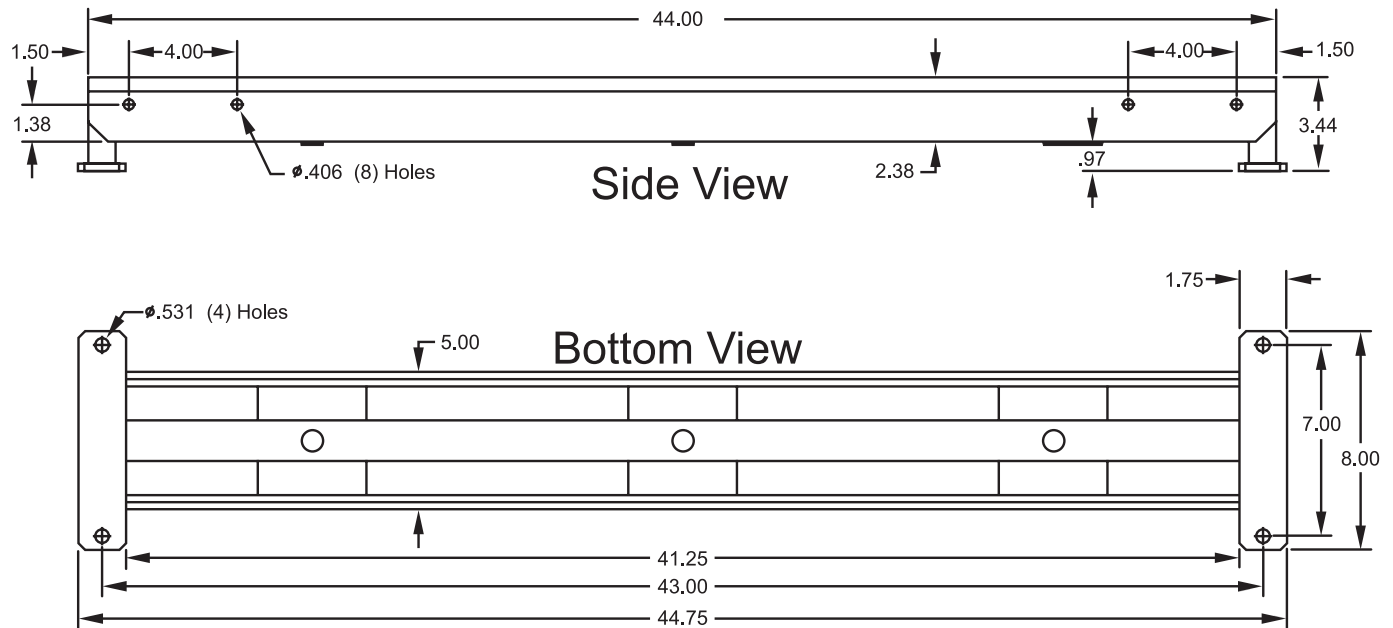

Figure 5
2. The feet should be attached to the concrete or other firm surface using 1/2" bolts. See Figure 5 for applicable mounting dimensions. Best scale accuracy is achieved when the surfaces being mounted to are firm and level. Shimming under the footpads may be needed to meet this requirement.